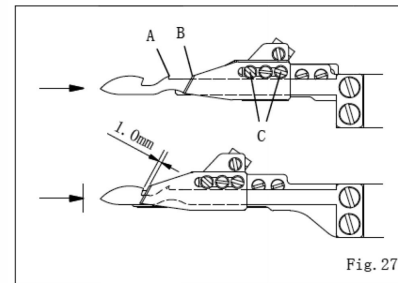

Fig. 27
1. 当活动刀片往右移时, 右边刀口之尖端 (A) 与固定刀之前端 (B) 须对齐。且活动刀移至最右点时, 左边刀口和固定刀前端的契合度为 1.0mm。调整时可放松螺丝 (C) 移动固定片。(图 27)
1. When Lower Moving Knife move to the right, the Moving Knife hook (A) of right hand side one align with the tip (B) of Fixing Knife. When the Lower Moving Knife move to the right dead point, The Moving Knife hook of left hand side one pass the tip of Fixing Knife in 1.0mm. Loosen the screw (C) for adjusting the position of Fixing Knife. (Fig. 27)